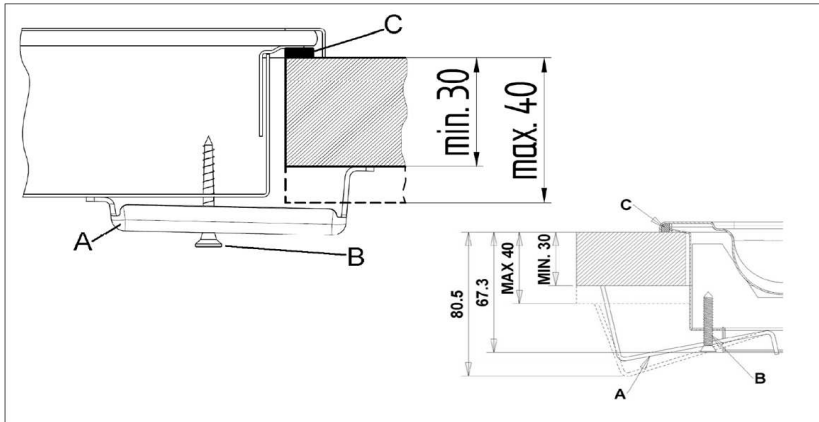

Figure 3.
To fix the hob in the housing, proceed as follows, see **figure 3** below:
- Fix the hob onto the worktop using the special fixing brackets (A) and fixing screws (B) supplied with the appliance, as shown in **figure 3** below.